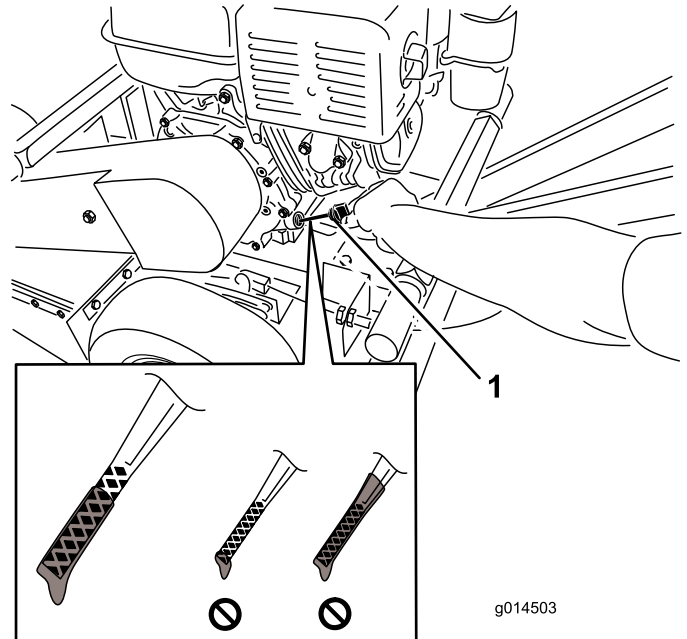

Figure 7
6. Pull the dipstick out and look at the end. The oil should be to the top of the upper limit range (Figure 7).